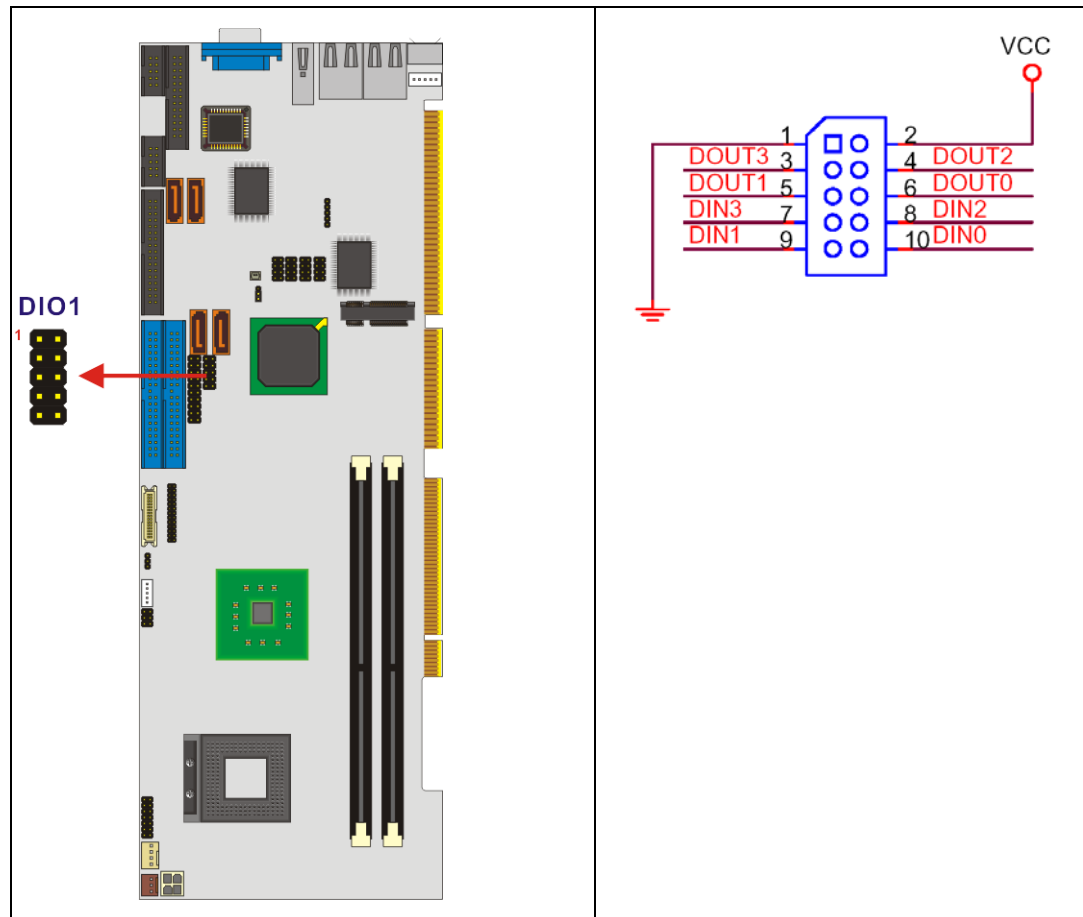

Figure 4-6: DIO Connector Location
- CN Location:** See **Figure 4-6**